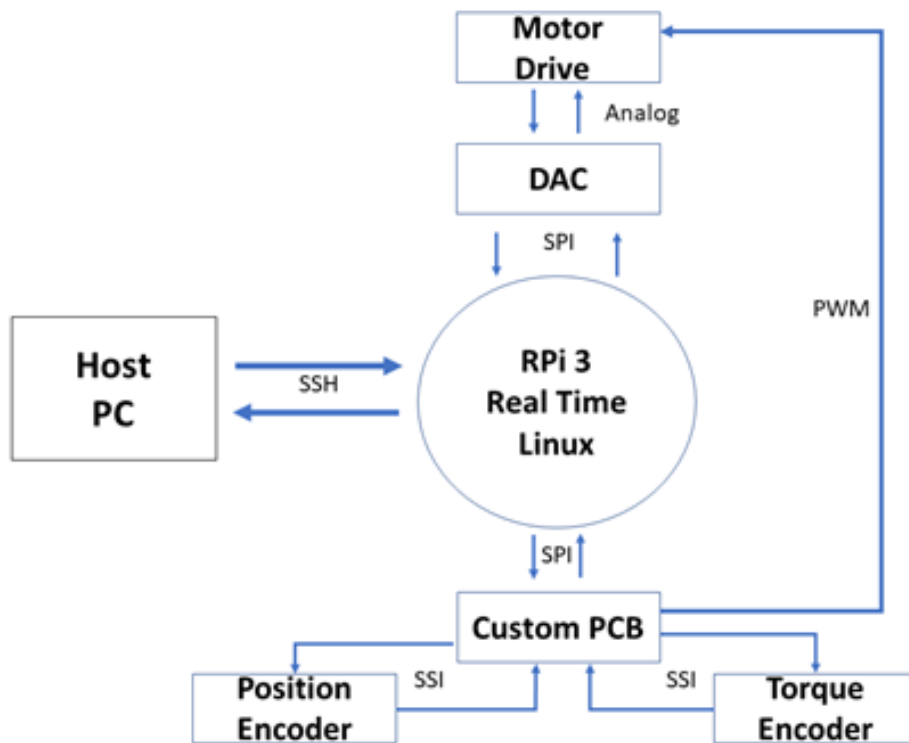

Figure 1: General structure of the electronics hardware.
The general structure of electronic hardware is illustrated in Fig. 1. The main controller is a Raspberry Pi 3 Model B, that has a real-time operating system achieved via Preempt-RT patch (<https://rt.wiki.kernel.org/>). A Maxon 70/10 motor drive was employed with Current Control configuration. Analog motor drive commands were sent via an D/A converter (Waveshare 12-bit) which can communicate with the Raspberry Pi unit via SPI (Serial Peripheral Interface). The two 23-bit encoders (Broadcom AS38-H39E-S13S), namely position encoder and torque encoder were utilized to measure motor side angle and spring deflection, respectively. A custom-made PCB was used to transfer encoder data to Raspberry Pi 3 unit via SPI. The circuit schematic and PCB layout were included as the supplementary material. Please see CustomCircuit_schematic.pdf and CustomPCB_schematic.pdf
- 1) Complete the connections provided in Fig. 1. Encoders are connected to the custom PCB board. Encoder – PCB connections are tabulated in Table I. Raspberry Pi 3 is connected to the computer via an ethernet cable. Raspberry Pi-3 compatible DAC connections can be obtained from https://www.waveshare.com/wiki/High-Precision_AD/DA_Board. For Maxon 70/10 connections, refer to its hardware manual